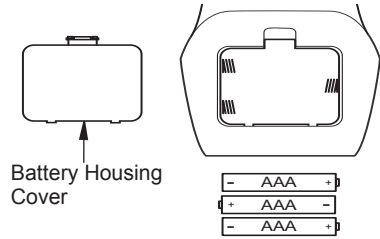

Figure 17 - Battery Install Hand-Held Remote Control
1. Remove battery housing cover from back of hand-held remote (see Figure 17).